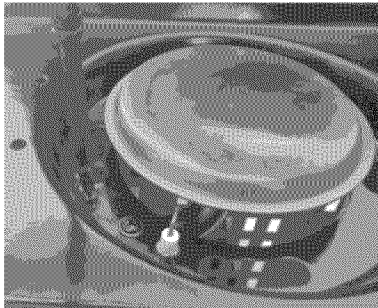

Fig. 11j
8. Reattach side burner to side burner shelf with the 2 previously removed screws as shown in **Fig. 11j**.